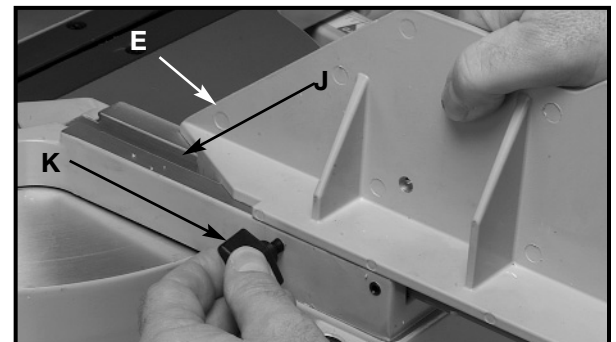
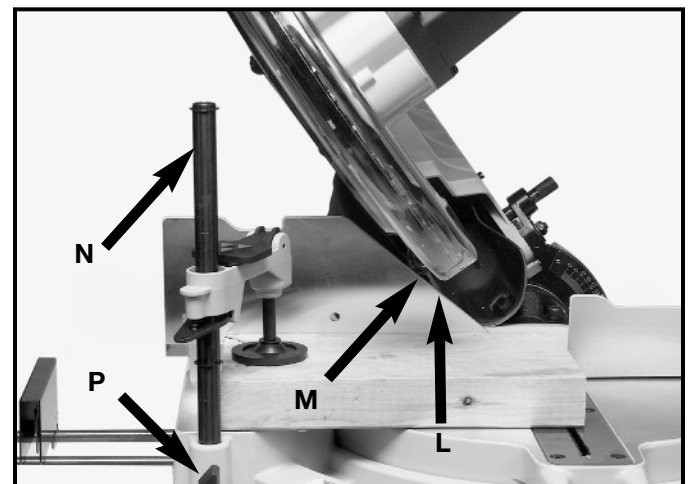

Fig. 20
Fig. 21
The high sliding fence (E) Fig. 20, provides support for extra large workpieces used with your saw and should always be set as close as possible to the saw blade. When miter cutting (set blade 90° to the table and at an angle to the right or left), the fence should be set all the way toward the blade, (Fig. 20). When bevel cutting, however (blade tilted at an angle to the table), the fence (M) Fig. 21, and the work clamp (N) Fig. 21 should be moved away from the blade to allow for proper clearance for the saw blade and guard (L) Fig. 21.
To reposition the fence, loosen the thumb screw (K) Fig. 20, and slide the fence to the desired location and tighten the thumb screw (K). To reposition the work clamp, loosen the thumb screw (P) Fig. 21, and reposition to the work to clear the blade and guard and tighten the thumb screw (P).
⚠ WARNING MAKE SURE THAT FENCE (M) Fig. 21 AND WORK CLAMP (N) Fig. 21 ARE CLEAR OF GUARD AND BLADE (L) Fig. 21 BEFORE OPERATING SAW.